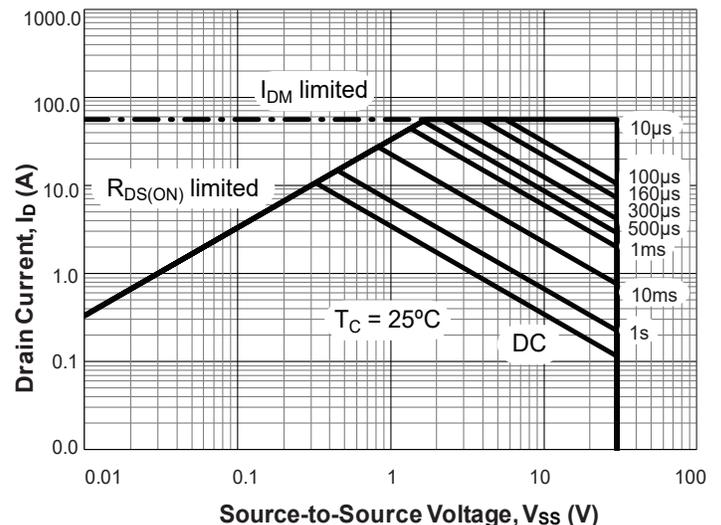

Figure 25. Safe Operating Area (SOA) curves for Sink power switch
Referring to the SOA curve in Figure 25, the maximum power allowed for 2ms (DC) is 50W ($2.5A \times 20V$ or $5A \times 10V$). The AOZ1380DI power switch is robust enough to drive a large output capacitance with load in a reasonable soft start time.